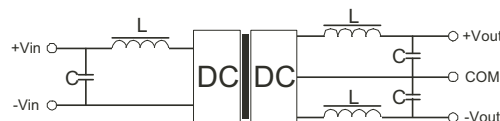

Figure 1
- All of the VWRBT1-SMT Series have been tested according to the following recommended testing circuit before leaving the factory. This series should be tested under load (Figure 1). If you want to further decrease the input/output ripple, you can increase capacitance properly or choose capacitors with low ESR. However, the capacitance should not be too high (Table 1).
By connecting a low ESR capacitor between this terminal and the pin-7 (Figure 1). the output ripple and noise may be further improved. Generally, the capacitance is no greater than 47uF.